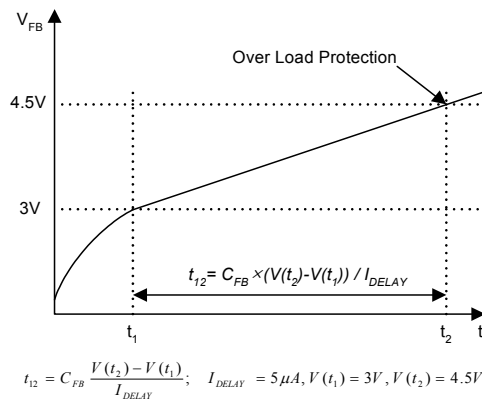

Figure 8. Over Load Protection (OLP)
4.1 Over Load Protection (OLP) : Overload is defined as the load current exceeding a pre-set level due to an unexpected event. In this situation, the protection circuit should be activated in order to protect the SMPS. However, even when the SMPS is operating normally, the over load protection (OLP) circuit can be activated during the load transition. In order to avoid this undesired operation, the OLP circuit is designed to be activated after a specified time to determine whether it is a transient situation or an overload situation. In conjunction with the Ipk current limit pin (if used) the current mode feedback path would limit the current in the Sense FET when the maximum PWM duty cycle is attained. If the output consumes more than this maximum power, the output voltage (Vo) decreases below its rating voltage. This reduces the current through the opto-coupler LED, which also reduces the opto-coupler transistor current, thus increasing the feedback voltage (VFB). If VFB exceeds 3V, the feedback input diode is blocked and the 5uA current source (IDELAY) starts to charge Cfb slowly up to Vcc. In this condition, VFB increases until it reaches 4.5V, when the switching operation is terminated as shown in Figure 8. The shutdown delay time is the time required to charge Cfb from 3V to 4.5V with 5uA current source.